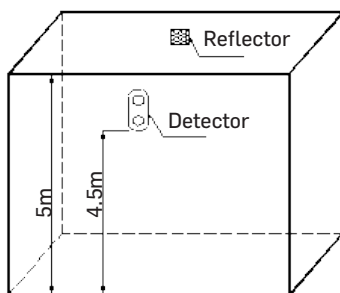

Fig.3
a) As the space height is not over 5m, the detector and reflector/s should be mounted on the walls which are opposite, having about 0.5m from the ceiling. Refer to Fig. 3.